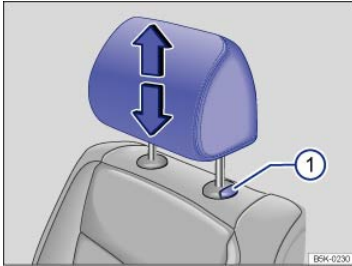
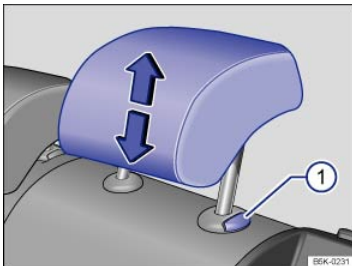

Fig. 39 Adjusting the front head restraints.
Fig. 40 Adjusting the rear head restraints.
- Push the head restraint up in the direction of the arrow or down when the button ⇒ Fig. 39① or ⇒ Fig. 40① is pressed ⇒ .